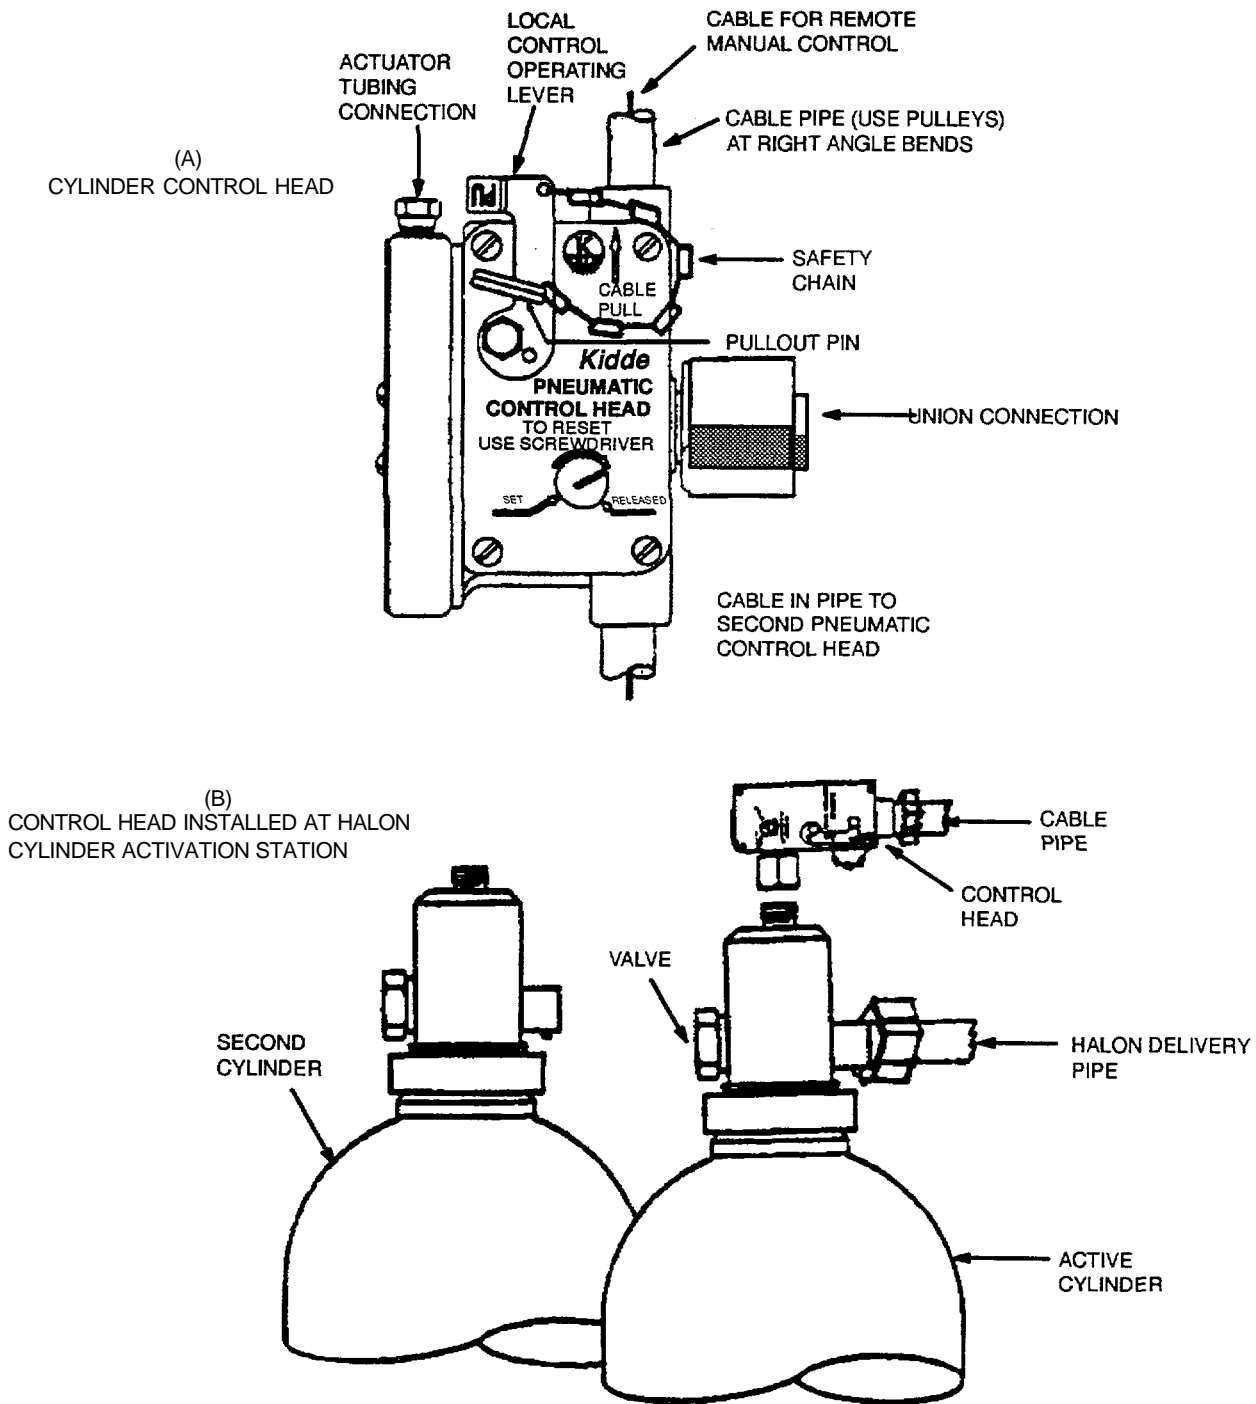

Figure 4-9. Halon System Cylinder Activation Station
- c. Pull on safety chain on control head on top of active cylinder, on port bulkhead aft of switchboard, and then move activation handle 90° (Figure 4-9).
- (1) Close hatch between voids 4 and 3.
- (2) Leave door open between starboard and port voids 4.
- (3) Close hatch to void 5.
- (4) Evacuate the voids.